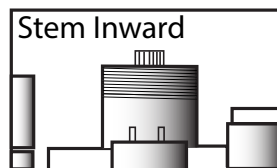

Fig. 14 Gas Valve LP View
The **AFVK-SPLIT VALVE SYSTEMS** use electronic control valves that are convertible from Natural to LP gas by a *Simple Rotary Knob* located on the front “face” of the gas valve (See Fig. 14).
3. To convert the valve from the factory setting (NAT) gently push the rotary knob inward with two fingers and rotate left or right to the LP position (See Fig.14). **NOTE:** The marker will now point to LP and the shaft will stay recessed inward.